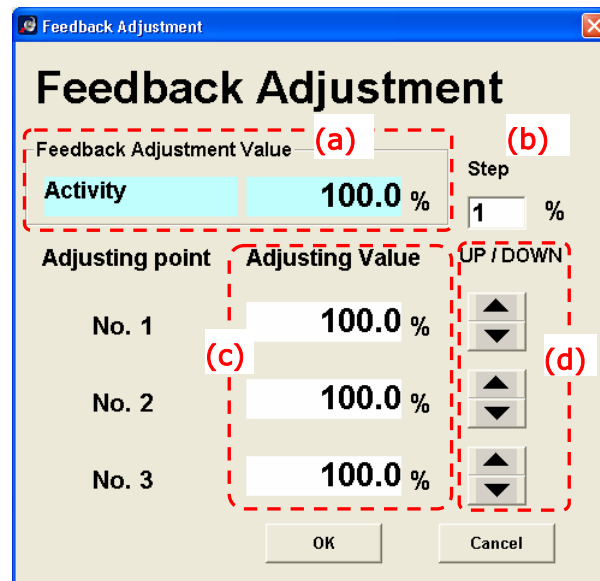

Fig. 9-3-4
- (4) Start the engine, and wait until "Activity" will be displayed to **[Feedback Adjustment Value]** (Fig. 9-3-4 (a)) for a few minutes.
To stabilize idling and most near the indicator of **[Feedback Adjustment Value]** to a percentage that is written in the WORKSHOP MANUAL, increase or decrease a feedback adjustment value by pressing either the up/down arrow button (Fig. 9-3-4 (b)).
Using **[Step]** (Fig. 9-3-4 (a)), directly type an increment value that is obtained when the up/down arrow button has been pressed once. The minimum value is 0. 1.
- (6) To establish the feedback adjustment value, press the **[OK]** button (Fig. 9-3-4 (c)).
- (7) To cancel any changes to the feedback adjustment value, select the **[Cancel]** button (Fig. 9-3-4 (d)).